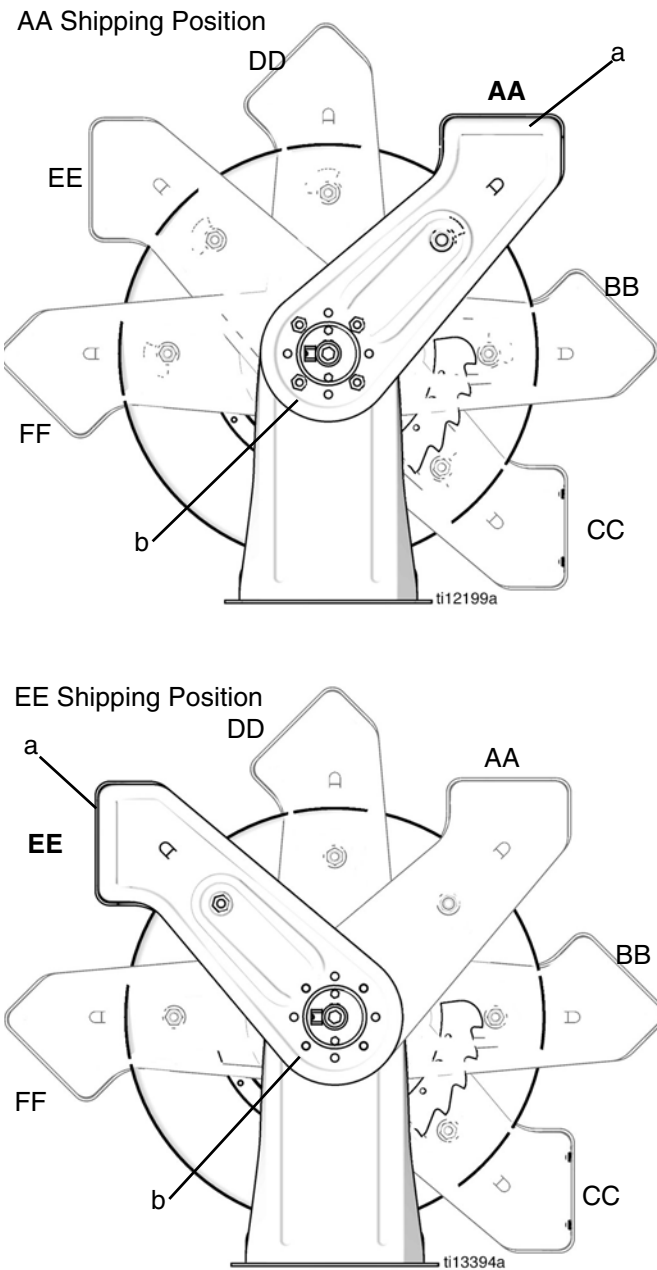

FIG. 5
1. Determine if the position of the roller guide arm (a) (FIG. 5) is in the desired installation position. If it is not in the desired installation position, skip to Step 2.
The hose reel is factory-assembled and shipped with the roller guide arm (a) in either the AA or EE position (FIG. 5).